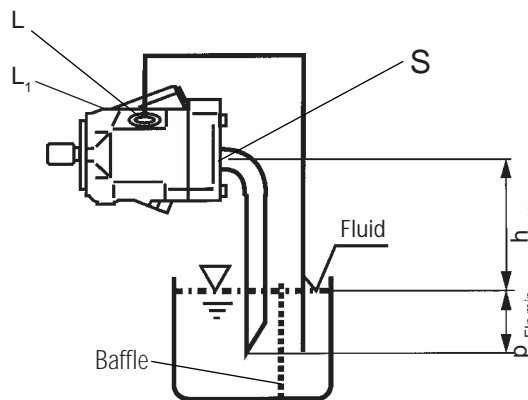

Fig. 4
b) If the minimum fluid level is below the top of the pump, pipe ports "L", "L₁" and possibly "S" as Fig. 4. The conditions correspond to item 1.2.1.
a) When mounting above the reservoir, see Fig. 4. Conditions correspond to 1.2.1.